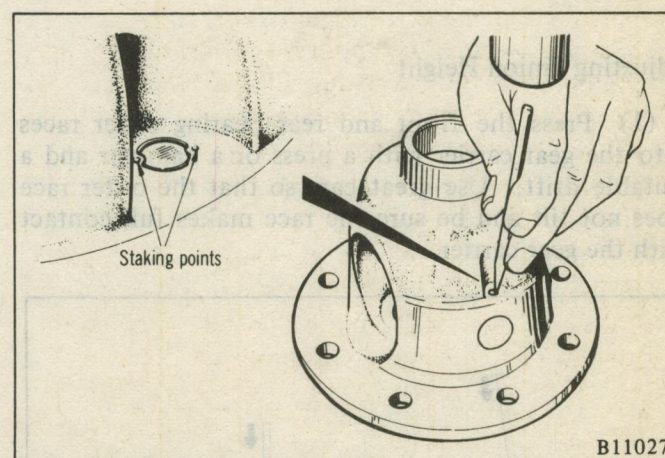

Fig. 28 Staking the Lock Pin
(5) Align the drive pinion shaft with the drive pinion shaft lock pin hole in the differential case, and drive the lock pin into the hole from the back side of the ring gear. Securely stake the lock pin at two places with a punch to prevent it from moving. (Fig. 28)